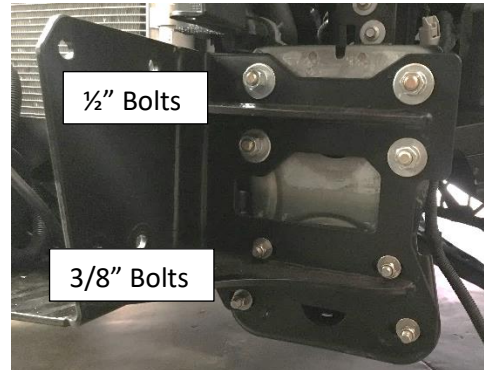

Figure 26: Winch Tray Installed onto Frame
23. Install the winch tray onto the frame using $\frac{1}{2}$ "-13 hardware through the top four (4) frame holes per side and $\frac{3}{8}$ "-16 bolts on the bottom four (4) scuff guard extension holes per side (Figure 26). Loosely install all 16 bolts through the frame/scuff guard and center the winch tray onto the vehicle before tightening. Once located, tighten the $\frac{1}{2}$ "-13 bolts to 80 ft-lbs and tighten the $\frac{3}{8}$ "-16 bolts to 20 ft-lbs.